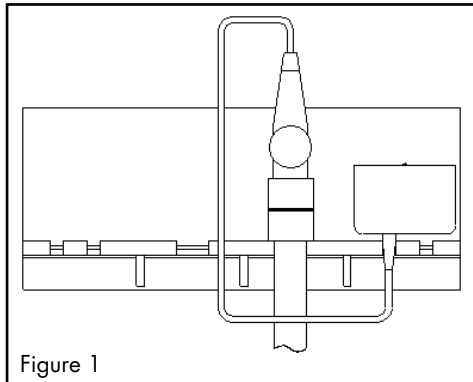

Figure 1
5. Cable should be looped in front of container with transducer connector(s) resting in openings to the right or left. (See Figure 1.)
3. Cable should be looped in front of container with transducer connector(s) resting in openings to the right or left. (See Figure 1.)